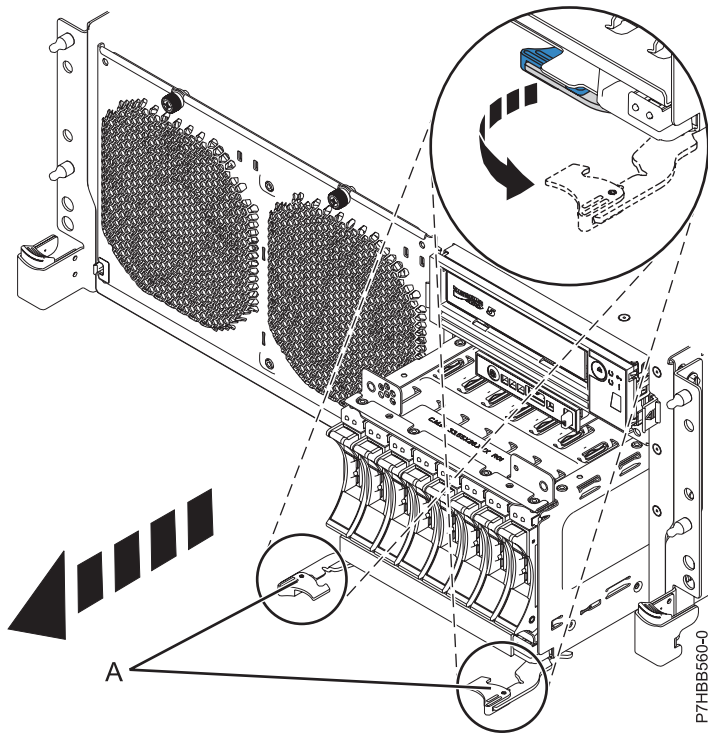
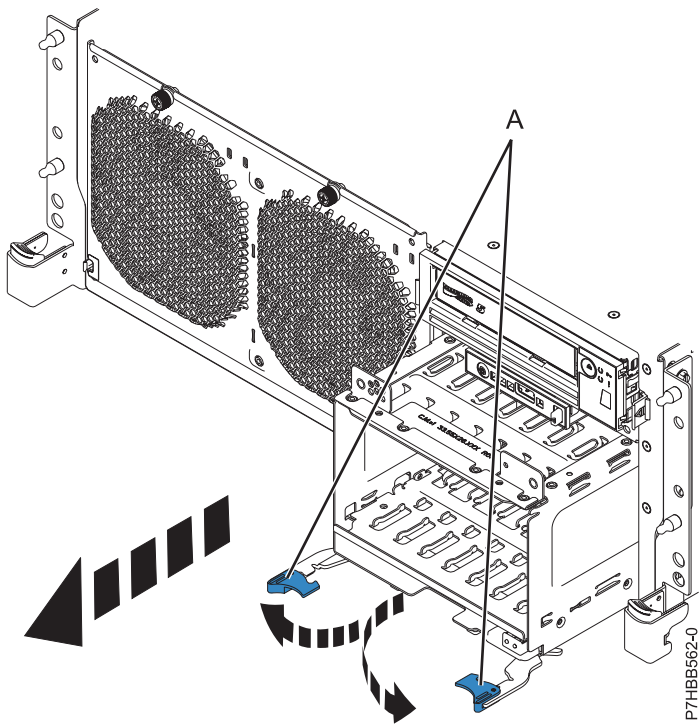

Figure 5. Removing the backplane that is populated with disk drives
Figure 6. Removing the backplane that is not populated with disk drives
14. Unlock the disk drive backplane by pulling the handles (A) open from the center of the backplane as shown in Figure 5 on page 8 and Figure 6 on page 8.